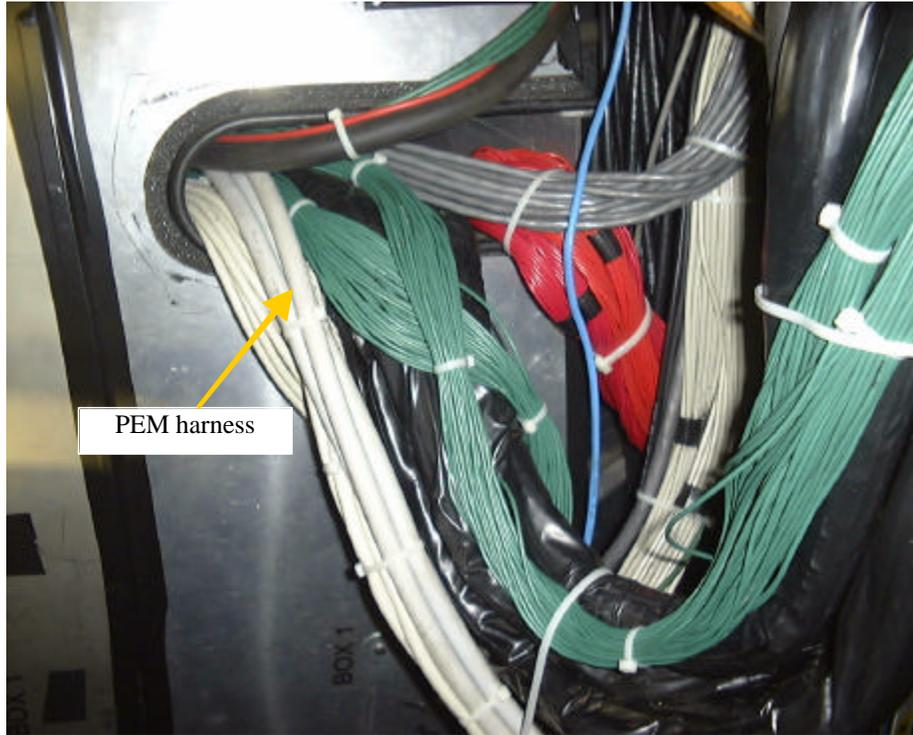

Figure 3
- Slide the AMP connector side of a harness onto the inside of the Plug detector through the insertion hole (see Figure 3). If the space is limited, bring the harness to the other side and try to slide the lemo connector side of a harness from the inside to the outside. Note that the AMP connector is covered to protect it and help it slide through the insertion hole.